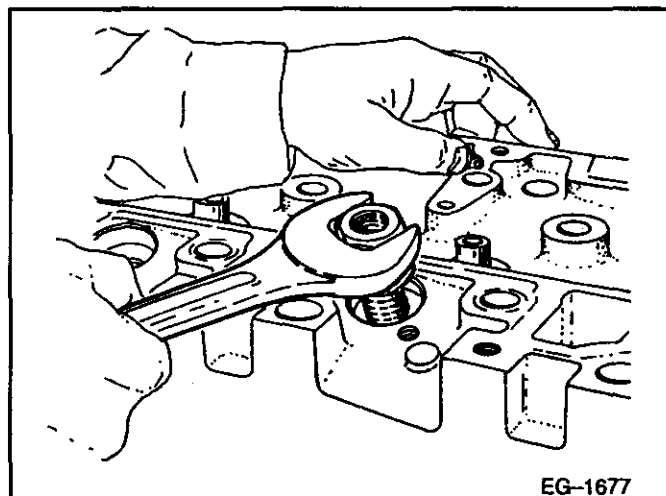

FIGURE 7-23
1. Insert a nozzle liner puller adapter threaded into the liner to be removed. Refer to FIGURE 7-23.